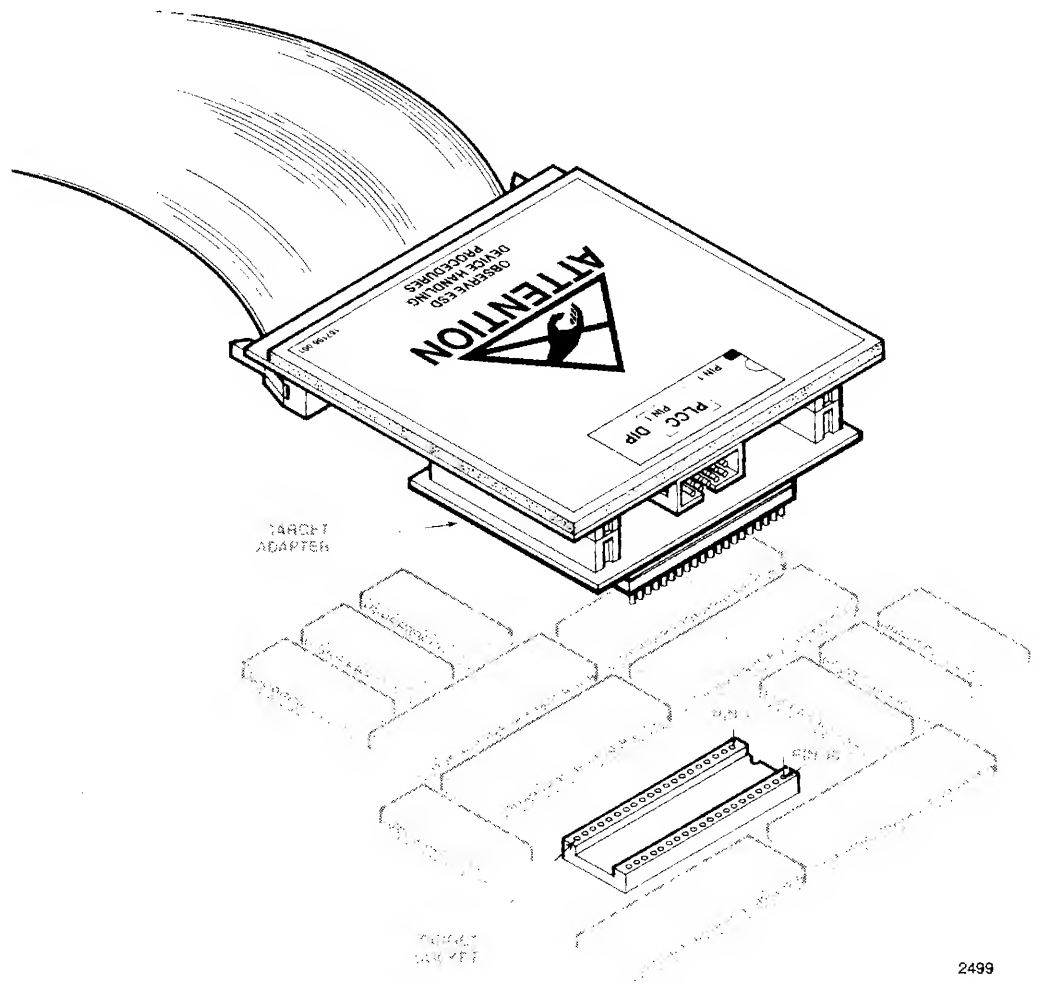

Figure 1-8 Orienting the Target Adaptor in a Target Socket
3. Twist the user cable as needed to align pin 1 of the target adaptor to pin 1 of the target socket. Refer to Figure 1-8 for the proper pin orientation of the target adaptor with respect to the target socket. (Figure 1-8 shows a 40-pin target adaptor.)